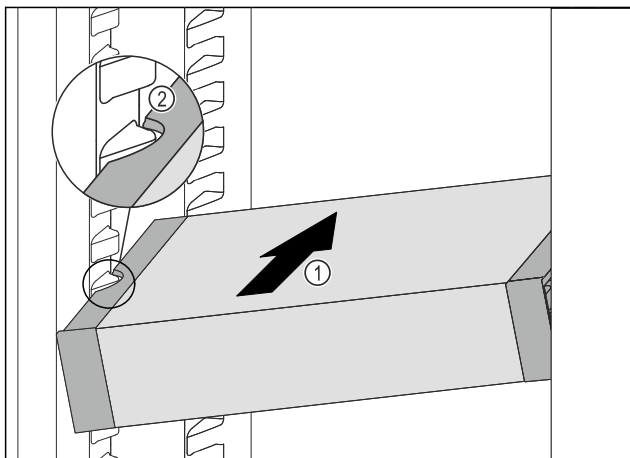

Fig. 114
- ▶ Insert the VarioSafe into the fridge section at an angle *Fig. 114 (1)* until the recesses in the side *Fig. 114 (2)* of the VarioSafe are at the level of the support rib in the fridge section.